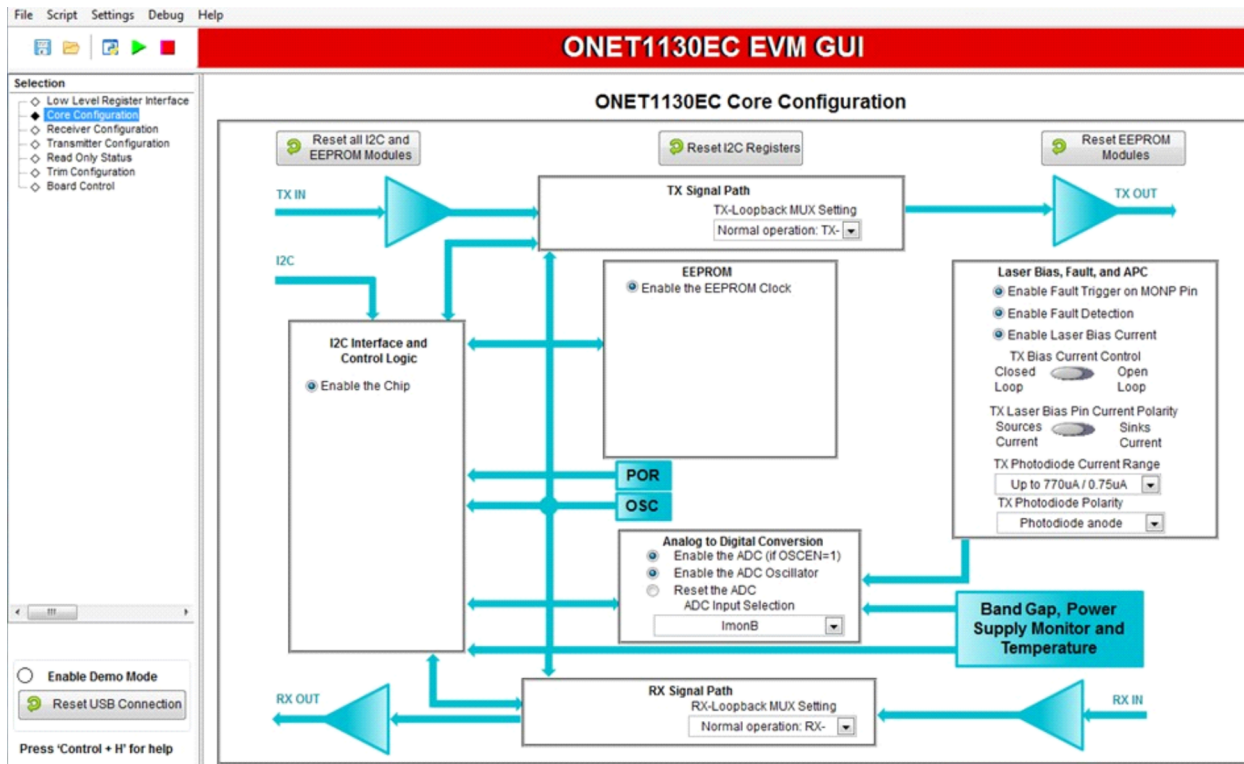

Figure 9. Core Configuration Page
2. Go to the *Core Configuration* page as shown in Figure 9.